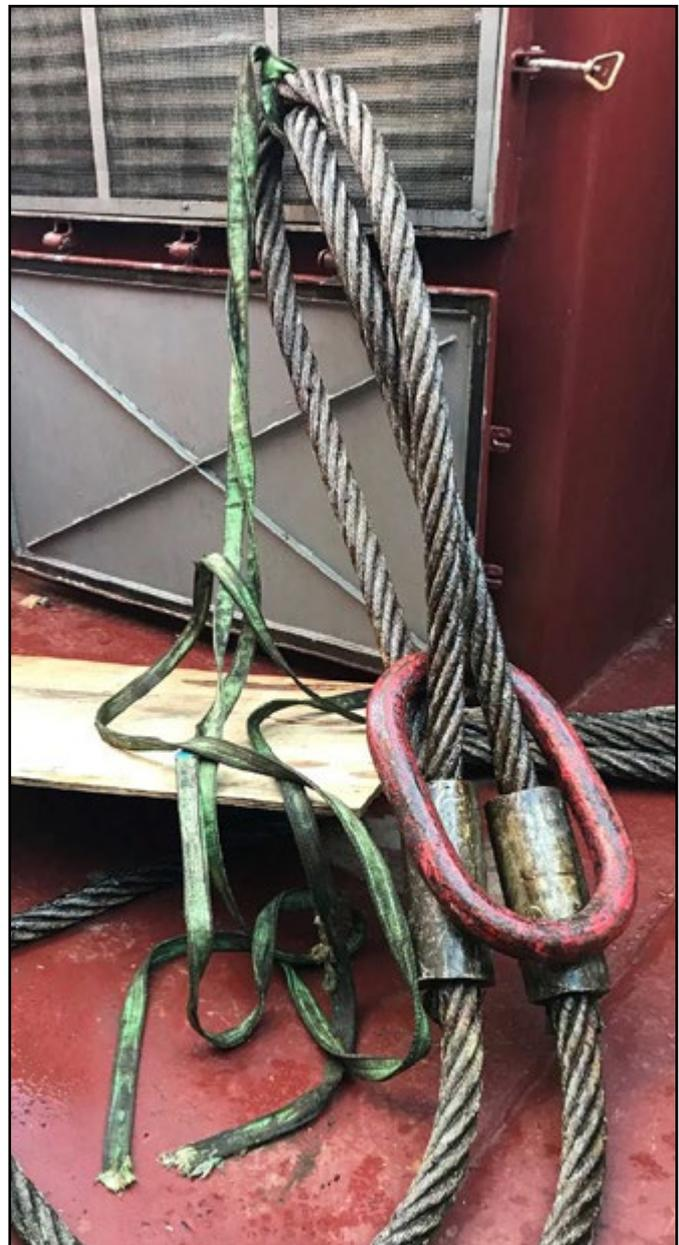

Figure 2: The broken fibre sling, still attached to the lifting gear, after the accident
4. All fixed and loose lifting gear should be regularly inspected and documented. The purpose of inspections is to check that the gear is being maintained in a satisfactory condition for safety-related operational use. After the accident, it was discovered that the fibre sling in use was in a poor condition (Figure 2) and had not been recorded in the vessel's lifting gear log. Although the breaking load of the sling was sufficient to hoist the lifting gear, it should have been disposed of due to its poor condition.